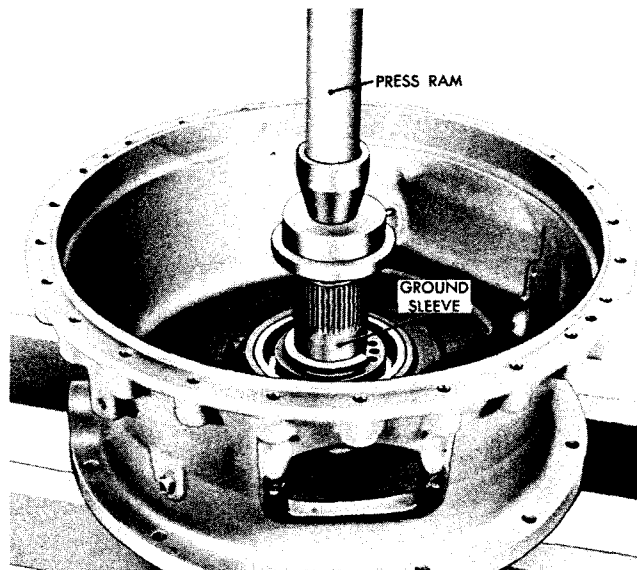

Fig VI-31. Removing ground sleeve from housing
(6) Ordinarily, converter ground sleeve (12, fig. VI-27) is not removed. If it needs to be replaced, position the converter housing in a press, front side up, and press the ground sleeve out of the housing (fig. VI-31). Remove the ground sleeve key and dowel pin from the ground sleeve.